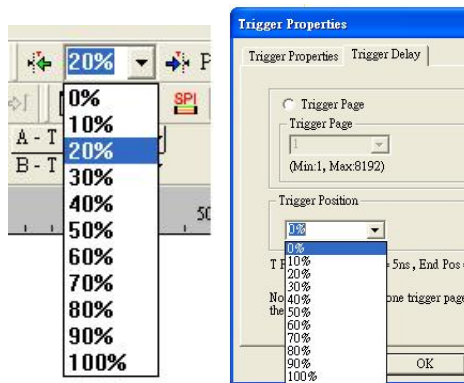

Fig 4-12 – Trigger Position Drop down menu
Step 5. Type the percentages or select the percentages from the pull down menu of the on the Tool Bar or Click the pull down menu of the Trigger Position on the “Trigger Delay” page of the Trigger Properties dialogue as shown in Figs 4-12, 4-13, 4-14, and 4-15, The Trigger Position percentages selected will be displayed where counted from the right side of the screen of the system.